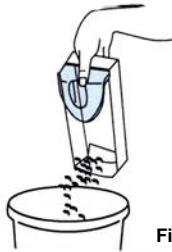

Fig. 12
2. Empty dust container contents. (Fig. 12) If desired- you may rinse with water to clean the dust container - but **dry thoroughly** before replacing on the sweeper.